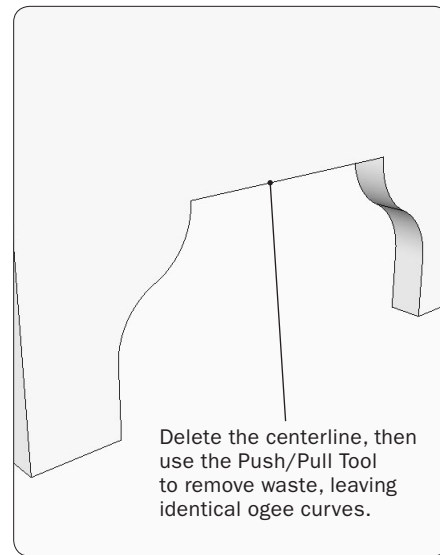

Figure 11. Complete the ogee curves on the side components.
Step 8 Use the Eraser Tool to delete the centerline, then use the Push/Pull Tool to push out the center of the cutout (Figure 11).